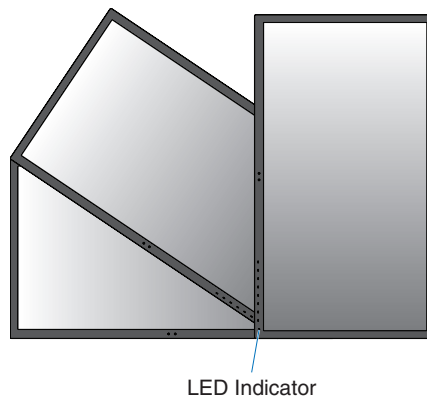

Figure F.2
- This will allow for proper ventilation and will extend the lifetime of the monitor. Improper ventilation may shorten the lifetime of the monitor (**Figure F.2**).